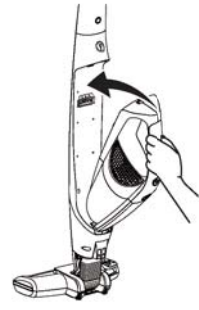

Fig.3
- Insert the handheld vacuum cleaner into the main body as shown and lock into place. Ensure that the dust bin is secure in place (Fig.3).